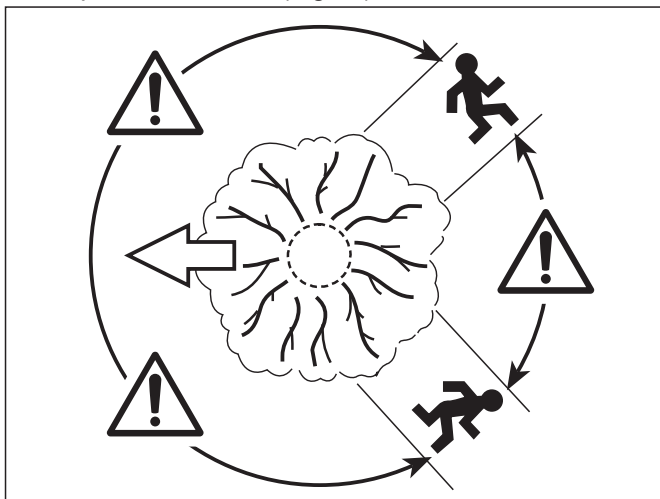

Fig. 20
3. An escape path should be planned and cleared as necessary before cuts are started. The escape path should extend back and diagonally to the rear of the expected line of fall (Fig.20).